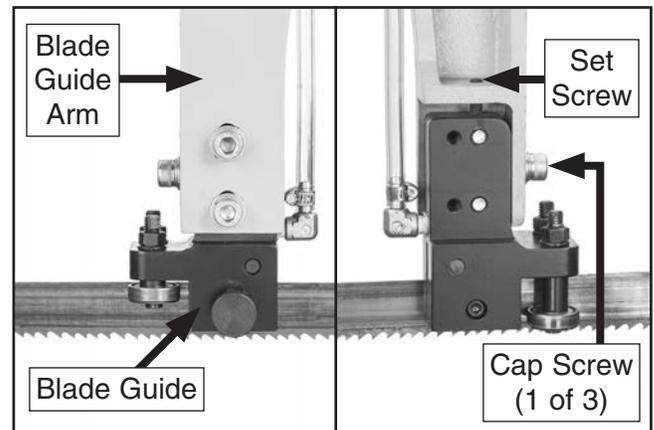

Figure 82. Components for adjusting upper carbide blade guide.
6. Loosen cap screws on blade guide arm (see **Figure 82**), and adjust set screw to move blade guide up or down until upper carbide blade guide lightly touches back of blade, then tighten cap screws.